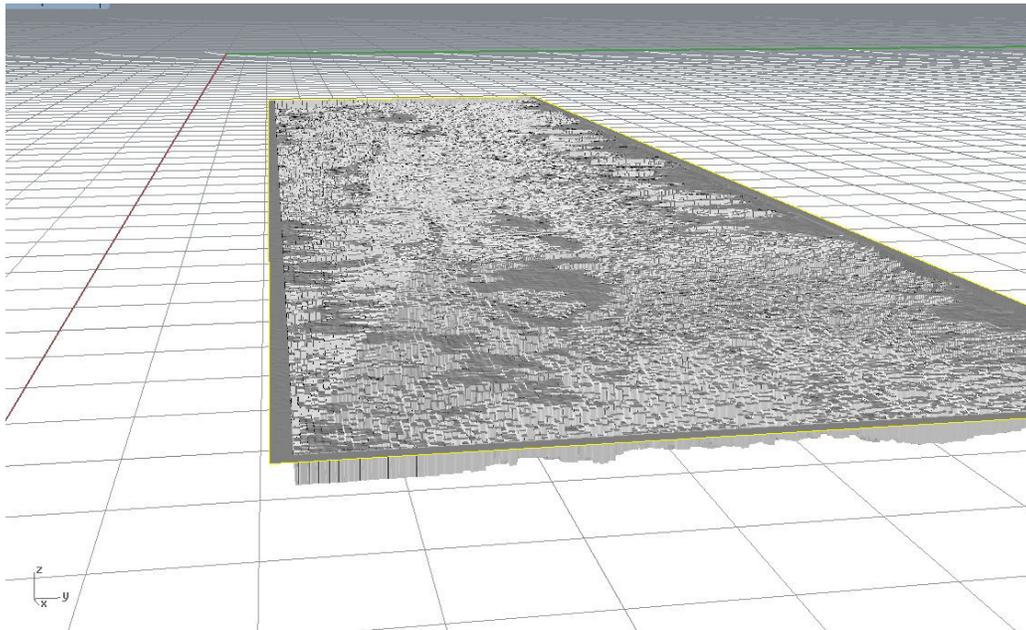

Figure 1.6 Displacement Map Meshed using `ExtractRenderMesh` command.
6. When you are happy with your displacement you need to turn this surface mapping into actual 3D data, a mesh. Before this point the image displacement is merely a rendering of the effect and not actually the geometry. To turn your image displacement into a mesh enter the command `ExtractRenderMesh` (figure 1.6).